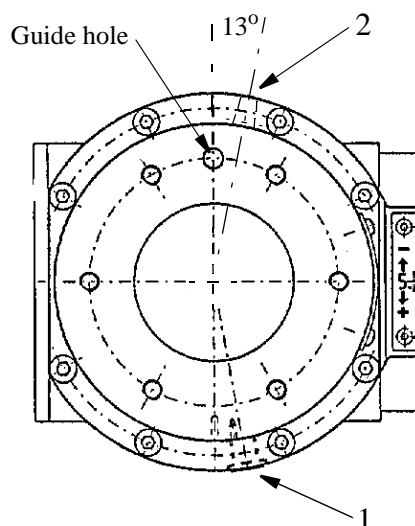

Figure 8 Greasing axis 6.
- Remove the plug from the drain hole (1). See Figure 8
- Grease through the radial nipple of the turning gear (2).
- Continue to grease until new grease exudes from the drain hole (1). See Volume below.